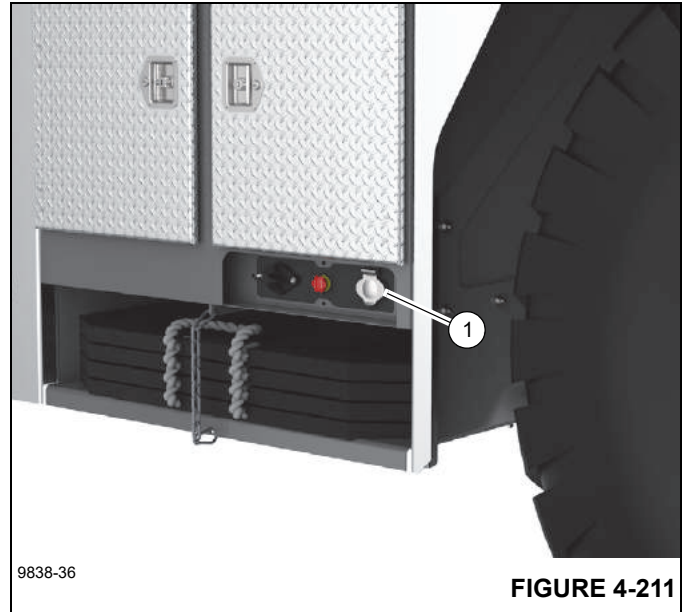

FIGURE 4-211
12. Set battery disconnect switch (1, Figure 4-211) to the OFF position if machine will be inactive for over 24 hours.